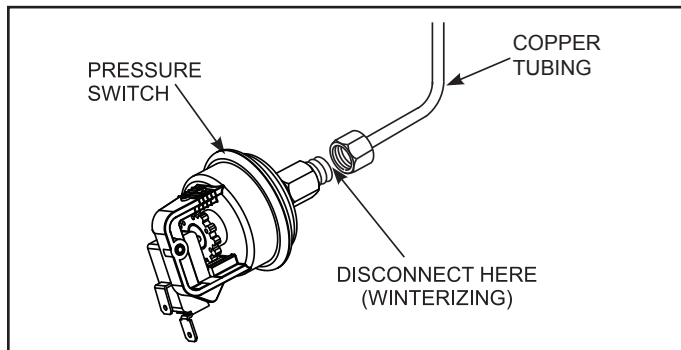

Figure 30. Pressure Switch Copper Tubing
11. Visually check the main burner flame. To obtain a good line of sight, remove the user interface from the top panel of the heater (see Figure 30).